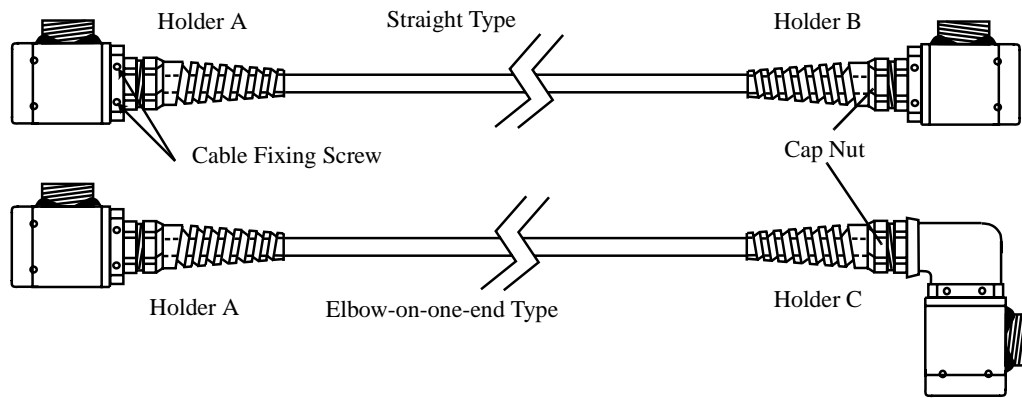

Figure 4-1. Robot Cables
There are two types of robot cables. One is the “straight” type and the other is the “elbow-on-one-end” type. Figure 4-1 shows the two types of cables.
- d. Move the X-axis to the center of its movement stroke. Loosen the cap nut (see Figure 4-1) and twist the cable to the upright position. Retighten the cap nut and torque to 7.5 to 9.0 N•m (66.4 to 79.6 in•lb).